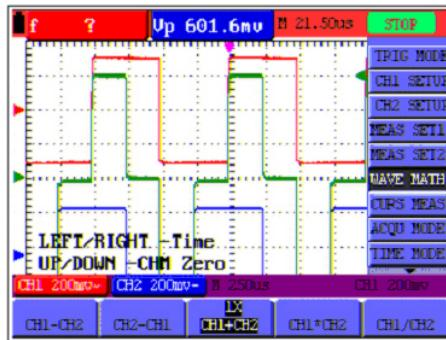

Figure 15.- Waveform mathematics.
7. Press the “**OSC ▲**” or “**OSC ▼**” key to adjust the position of the waveform Math. Now, look at the display and you will find a screen that looks like the following Figure 15.